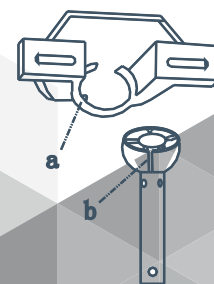

Fig. 3
- Rotate the fan until the notch (b) on the hanger ball fits against the ridge (a) on the mounting bracket (Fig. 3).